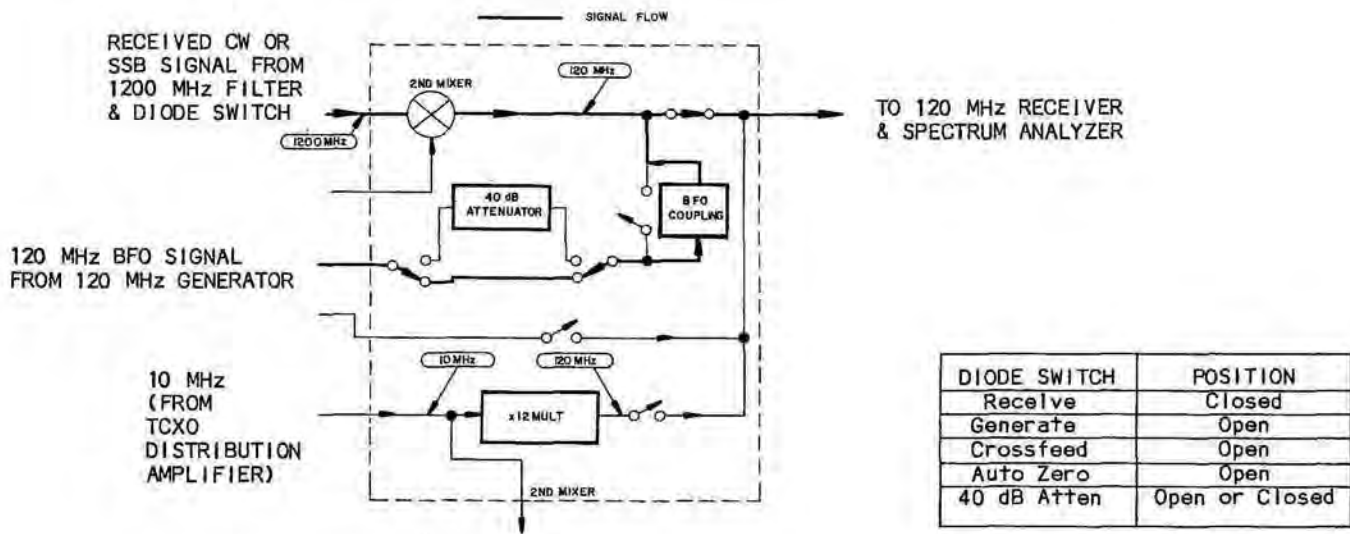

Figure 2-16 2nd Mixer Assy (Receive Signal Flow Using BFO Function)
2. Signal Flow for Receive Mode Using BFO Function (See Figure 2-16)